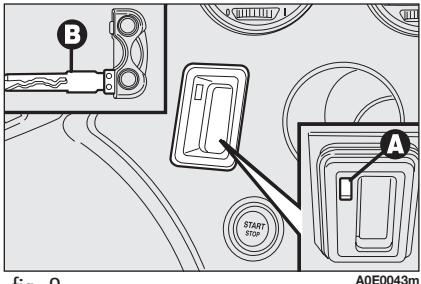

fig. 9
- fit the metal insert **B**-**fig. 9** of the electronic key into the slot **A**;
IMPORTANT Only fit the metal insert **B** of the electronic key into slot **A**-**fig. 9**.